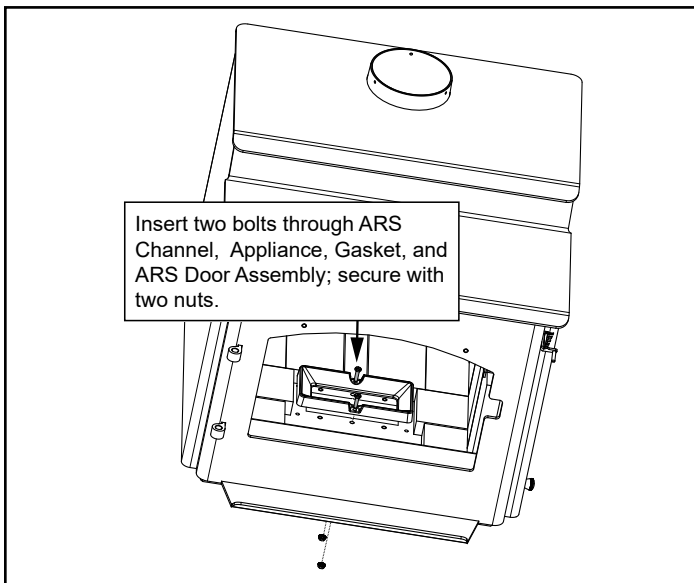

Figure 22.3
11. Using two bolts and two flange nuts to secure ARS channel using 3/8 open end wrench and 7/16 socket wrench (**Figure 22.3 on page 22**).
11. Use 2 bolts and two flange nuts to secure ARS channel using 3/8 open end wrench and 7/16 socket wrench (**Figure 22.3 on page 22**).